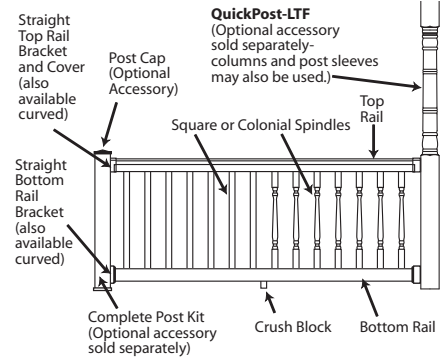

Figure 1
1. Measure the inside opening between the mounting surfaces (Figure 1). **Note:** Verify that the opening is not wider than the length of the rails provided.